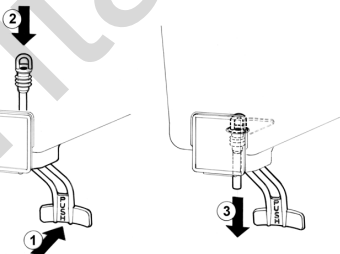

figure 5
2 Pinch tube faucet: push the dispensing handle (1) and insert the pinch tube into its vertical seat in the bowl bottom(2). Lightly pull the pinch tube end downwards til itl is well arranged (3) (see figure 5).